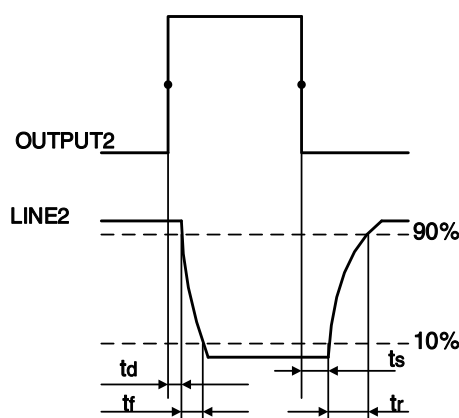

Figure 7-10 Parameter of Line2 output circuit
- Rising time delay =  $t_d+t_f$ :  $<20\mu s$  ( $0^{\circ}C\sim 45^{\circ}C$ ) (parameter description as shown in Figure 7-10)
- Falling time delay =  $t_s+t_r$ :  $<20\mu s$  ( $0^{\circ}C\sim 45^{\circ}C$ ) (parameter description as shown in Figure 7-10)